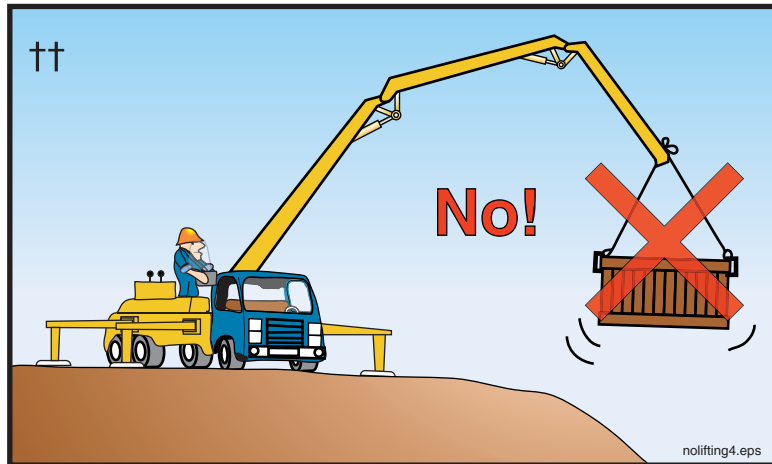

Figure 70
- 15.7 **⚠ WARNING** If maintenance work requires that you use a crane, hoist, fork truck, or similar machine, read and understand the safety regulations for that equipment. Remember, **the boom may not be used as a hoist or crane!** (See Figure 70.)